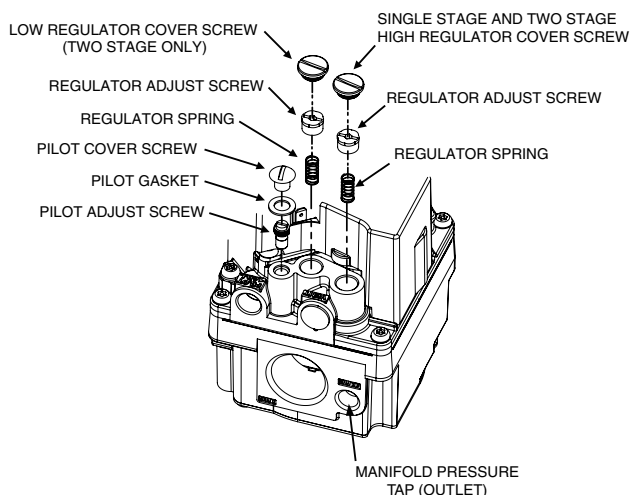

Figure 18. Regulator Spring & Adjustment Screw Removal
1. Remove both regulator cover screws. See Figure 18.